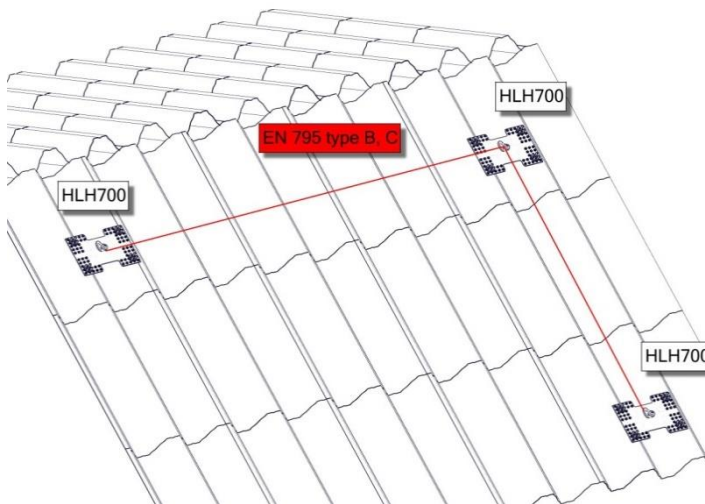

Figure 7. Example of installation of temporary fall protection systems
- The post can be installed as an anchor point in horizontal temporary lifeline fall protection systems, the required strength of which is no more than 30kN. **Figure 7**